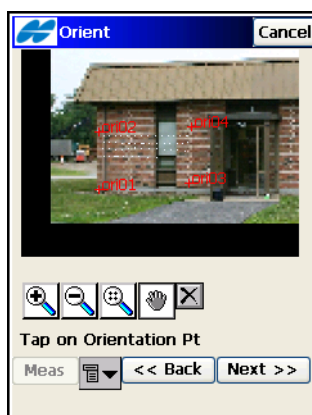

Figure 8-57. View Completed Scan Session
- Click the **View** button to open the **Orient** screen (Figure 8-57 on page 8-52). This screen displays the image, along with orientation and scanned points for completed scan sessions.